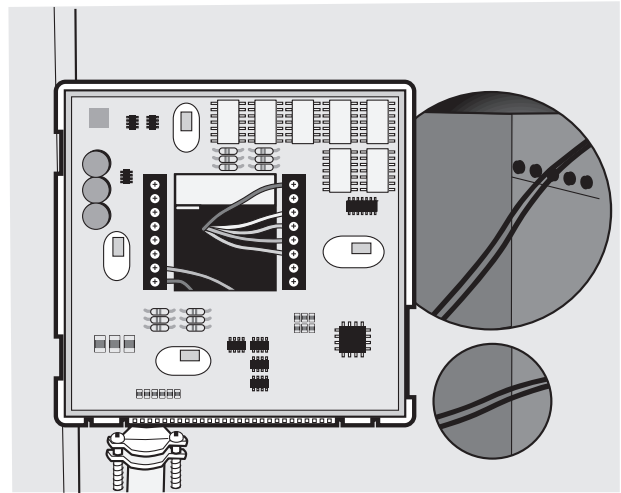

Fig. 8 — Equipment Control Module Mounting
14. Find a suitable indoor mounting location for equipment control module. The module should be mounted on or near the HVAC equipment. See Fig. 8.